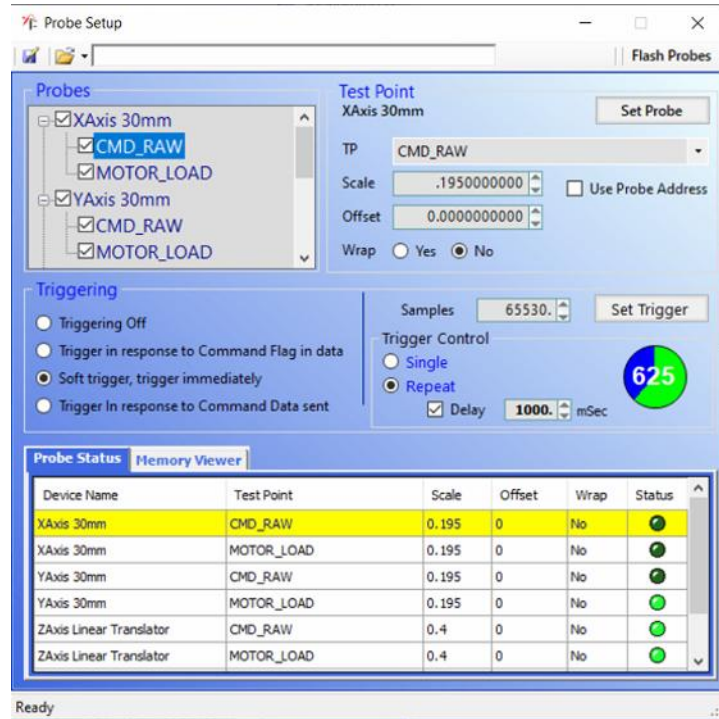

Figure 42: Setting up the probes
The *Probe Setup* window opens; see Figure 42 on page 87.
- Use the settings shown in Table 15 on page 87 and Table 16 on page 88 to setup the *Probes* so that it looks similar to that shown in Figure 42 on page 87.